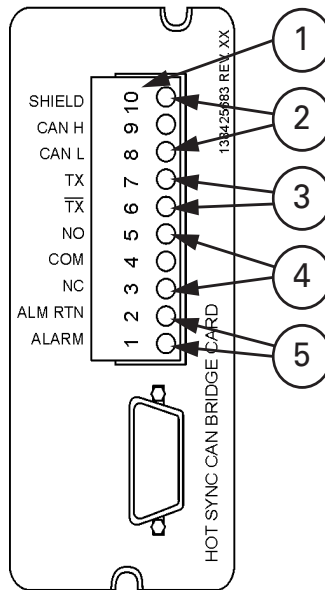
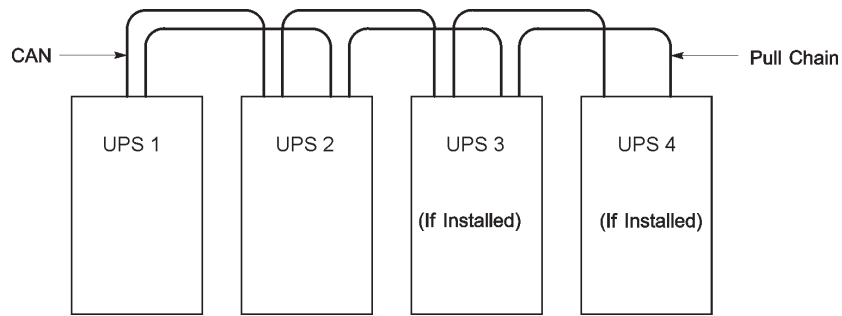
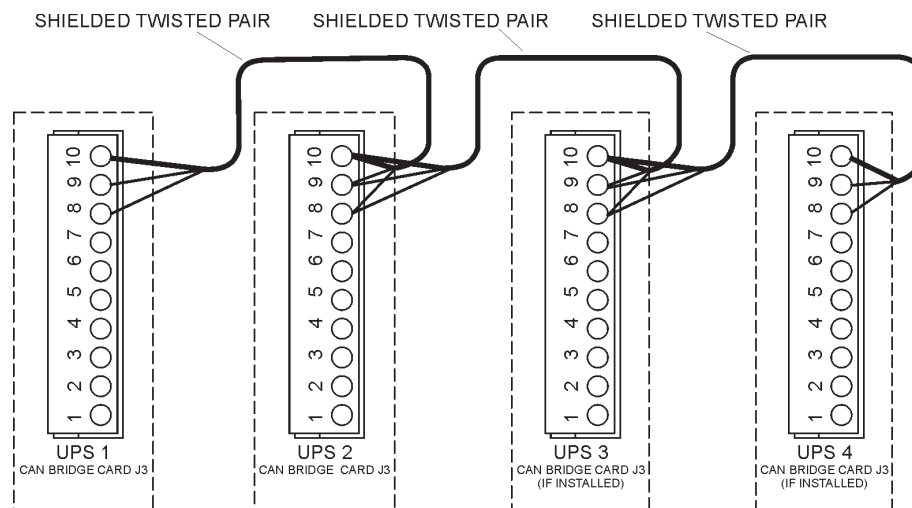

Figure 5-2. HotSync CAN Bridge Card connections
Figure 5-3. Distributed bypass system CAN and Pull-Chain simplified interface wiring
Figure 5-4. Distributed bypass system UPS CAN wiring without MOB
To locate the appropriate terminals on the HotSync CAN Bridge Card, see Figure 5-2 and Table 5-1 on page 55.
7. Route and install CAN wiring between the UPS cabinets. See Figure 5-2 and Table 5-1 on page 59 for the HotSync CAN Bridge Card terminal location and Figure 5-3, Figure 5-4, and Table 5-2 on page 58 for wiring information.